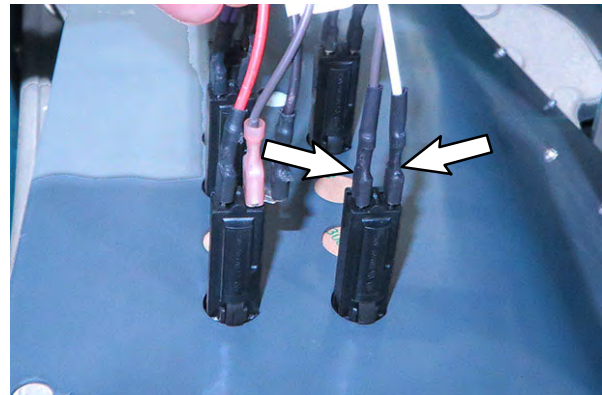

FIG. 10
- 18.Connect the blue spotlight harness (3) T1/T2 leads to the 2.5- Amp circuit breaker (14) installed in the previous step. (Fig. 10)